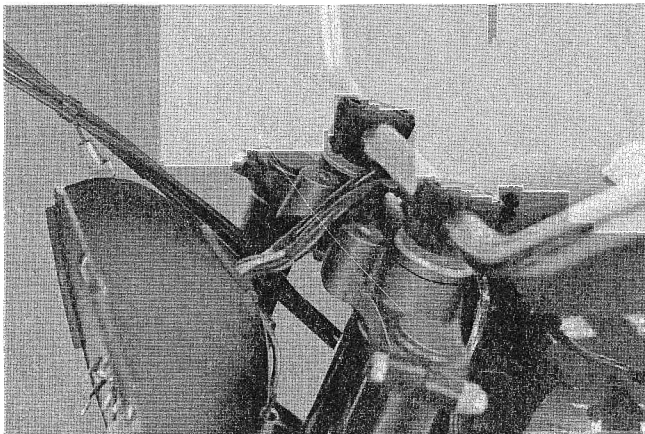

Fig. 20
16. First, thread the handle wires through the head lamp body grommet, and install the handlebar assembly (h) using the two handle upper holders, four hexagon socket head bolts (removed in procedure 15) and four bolt caps (a-21). (Fig. 20)